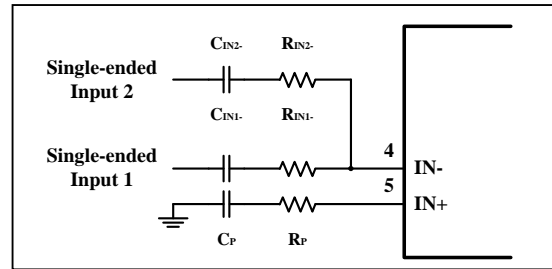

Figure 16 Application Circuit with Summing Two Single-Ended Inputs
The gain and corner frequencies (f_{C1} and f_{C2}) for each input source can be set independently (see equations (11) through (14), and Figure 16). Resistor, R_p , and capacitor, C_p , are needed on the IN+ terminal to match the impedance on the IN- terminal.